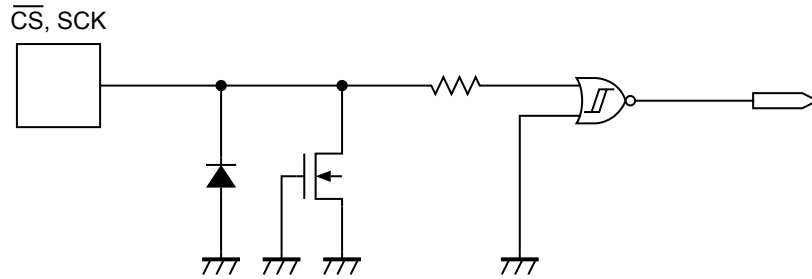

Figure 21  $\overline{\text{CS}}, \text{SCK}$  Pin
**Figure 21** and **22** show the equivalent circuits of input pins in S-25C160A. A pull-up and pull-down elements are not included in each input pin, pay attention not to set it in the floating state when you design.